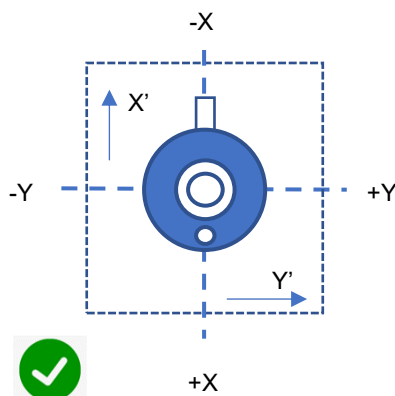
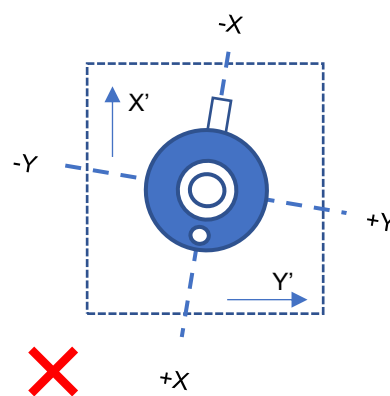

Figure 5-2B Tilt and roll angle corresponding to reference plane
Figure 5-2C Tilt and roll angle not corresponding to reference plane
**For setup at inclined plane:** Setup the pyranometer with signal cable aligned with the installation platform (X', Y'), see figure 5-2B. When the sensor is not aligned, the tilt (X) and roll (Y) measurement does not reflect the angle X' and Y', see figure 5-2C.